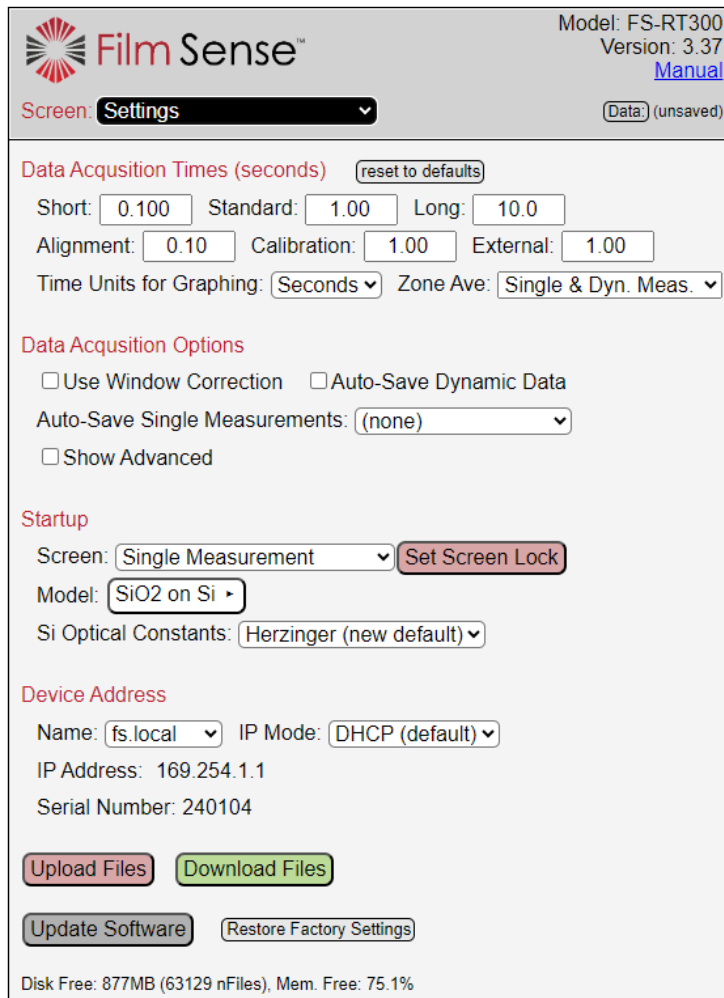

Figure 6: Settings Window
- Set the **Acquisition Time** (standard is 1 (s)). Changes to the acquisition time can be made in **Screen: Settings** window (see fig.6).